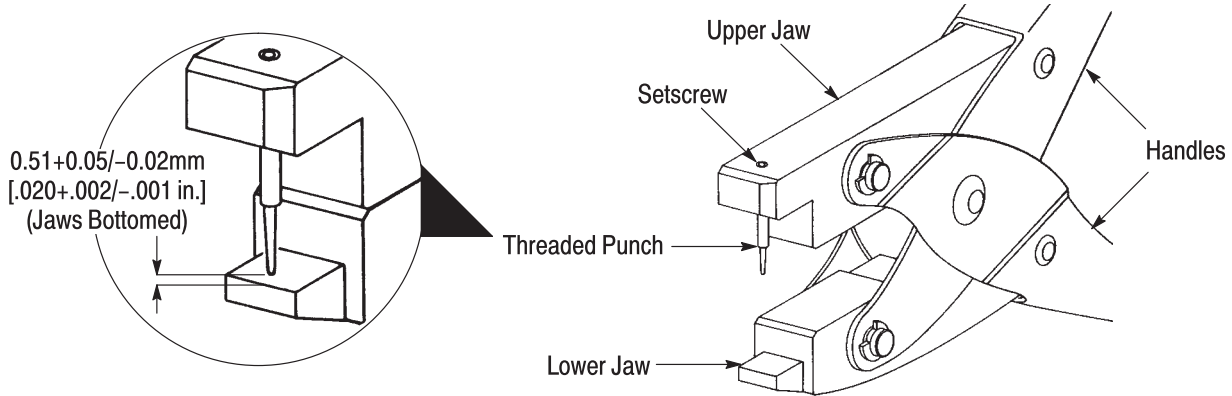

Figure 1
2. DESCRIPTION (Figure 1)
NOTE *Close the tool handles and measure the distance between the punch tip and lower jaw. If necessary, adjust the threaded punch and setscrew to obtain the clearance shown in Figure 1. To adjust the punch, loosen the setscrew, adjust threaded punch up or down as required, and tighten setscrew.*